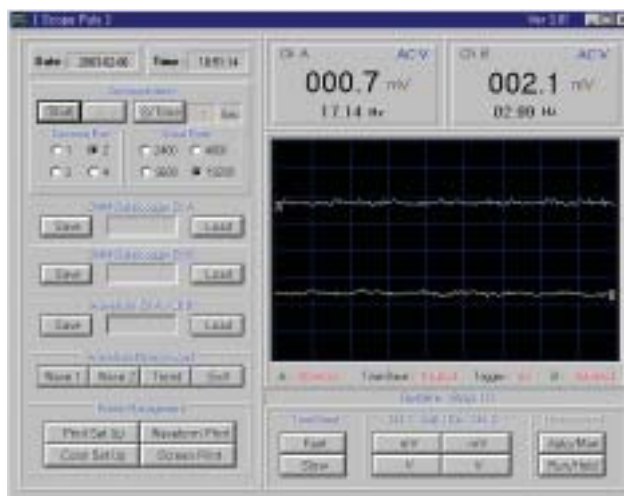

Figure D-1. Basic 460 RS-232C display
2. Insert the first software installation disk, and use the mouse to select Start -> Run. Enter A:\SETUP.EXE into the Open box and select OK. Repeat for the second installation disk. You should have a screen similar to the one shown in Figure D-1